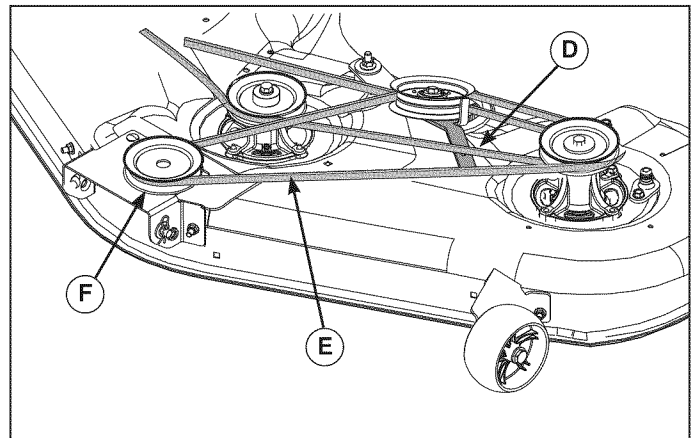

Figure 20
6. Pull the idler pulley lever (D, Figure 20) to release belt tension. Remove belt (E) from PTO pulley (F).
4. Pull the idler pulley lever (**D**, Figure 20) to release belt tension. Install belt (**E**) on the PTO pulley (**F**).